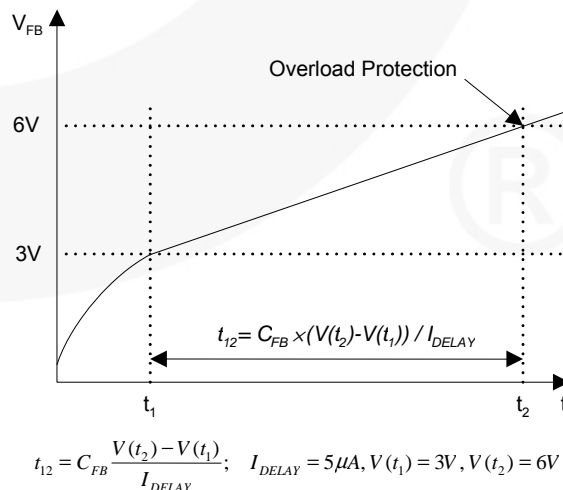

### Figure 14. Pulse Width Modulation (PWM) Circuit
**2. Feedback Control:** The 700V FPS series employs Current Mode control, as shown in Figure 14. An optocoupler (such as the H11A817A) and shunt regulator (such as the KA431) are typically used to implement the feedback network. Comparing the feedback voltage with the voltage across the  $R_{sense}$  resistor of SenseFET, plus an offset voltage, makes it possible to control the switching duty cycle. When the regulator reference pin voltage exceeds the internal reference voltage of 2.5V; the optocoupler LED current increases, feedback voltage  $V_{fb}$  is pulled down, and the duty cycle is reduced. This typically occurs when the input voltage increases or the output load decreases.
**4.3 Over-Voltage Protection (OVP):** In the event of a malfunction in the secondary-side feedback circuit or an open feedback loop caused by a soldering defect, the current through the optocoupler transistor becomes almost zero (refer to Figure 14). Then,  $V_{FB}$  climbs up in a similar manner to the overload situation, forcing the preset maximum current to be supplied to the SMPS until the overload protection is activated. Because excess energy is provided to the output, the output voltage may exceed the rated voltage before the overload protection is activated, resulting in the breakdown of the devices in the secondary side. To prevent this situation, an Over-Voltage Protection (OVP) circuit is employed. In general,  $V_{CC}$  is proportional to the output voltage and the FPS uses  $V_{CC}$  instead of directly monitoring the output voltage. If  $V_{CC}$  exceeds 19V, the OVP circuit is activated, terminating switching. To avoid undesired activation of OVP during normal operation,  $V_{CC}$  should be designed to be below 19V.